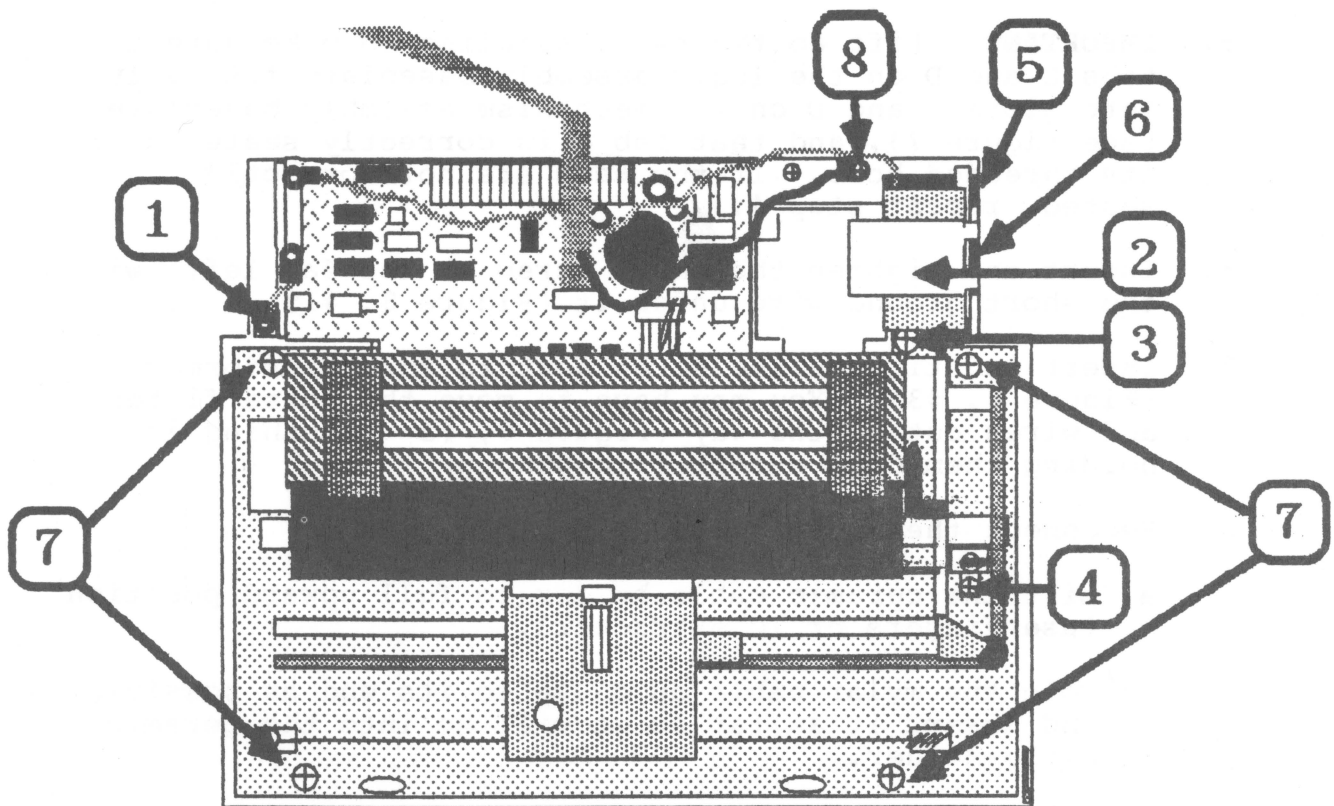

Figure 8
13. Make sure the AC fuse holder and the AC power cord socket (Figure 8, #5 and #6) fit into their slots in the case. If they don't, push them gently into place.
14. Replace and tighten the four screws at the corners of the black base-plate (Figure 8, #7). **NOTE:** These screws are all the same length. The similar but longer screw will be used later.
17. Fasten the ribbon cable's ground wire to the right rear corner of the chassis with the long screw (Figure 8, #8).